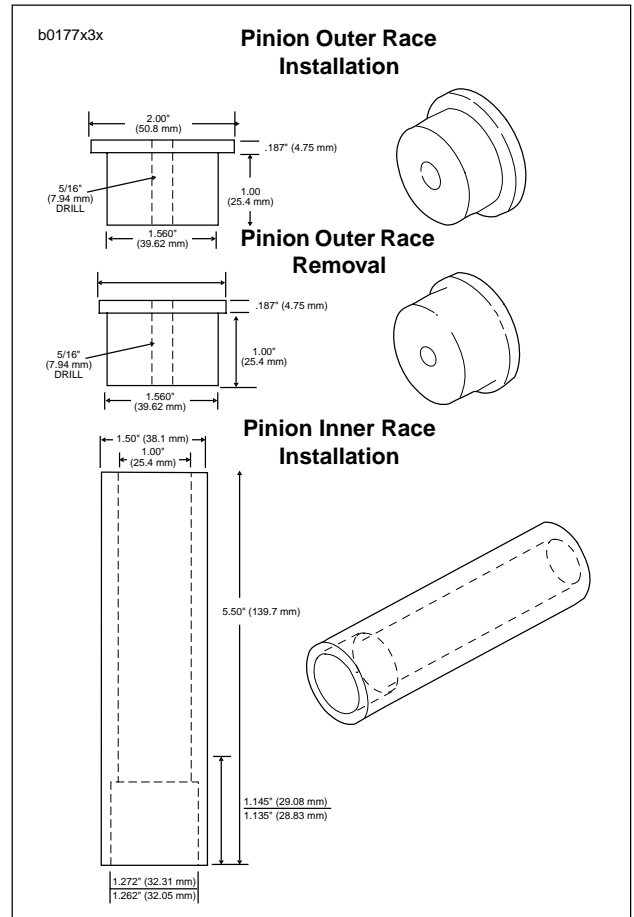

Figure 3-86. Pinion Shaft Bearing Tools
See Figure 3-86. Dimensions are shown for fabrication of tools used in pressing the outer race into or out of crankcase.
8. See Figure 3-85. Press **new** inner race on pinion shaft as shown. The **new** inner race must be ground by a competent machinist to OD dimension range for the finished lapped ID of the outer race. See Table 3-12. The finished inner race must meet these specifications. For necessary dimensions for constructing a press-on tool see Figure 3-86. When the tool bottoms against the flywheel, correct inner race location is automatically established.